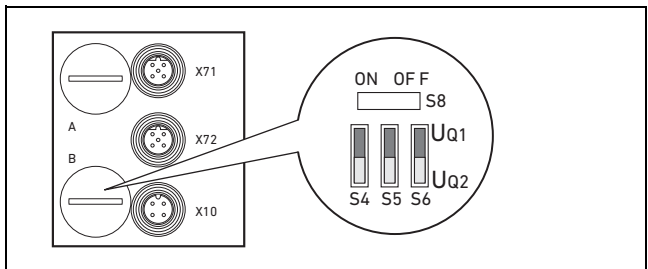

Fig. 9: S4, S5, and S6 switches for assigning valve supply voltages ( $U_{Q1}$ ,  $U_{Q2}$ )
1. Open the lower screw cap **B** (see Fig. 9 on page 116).
2. Using the S4, S5, and S6 switches, assign each valve group to one of the supply voltages  $U_{Q1}$  or  $U_{Q2}$  (see Tab. 14 and Fig. 9 on page 116).